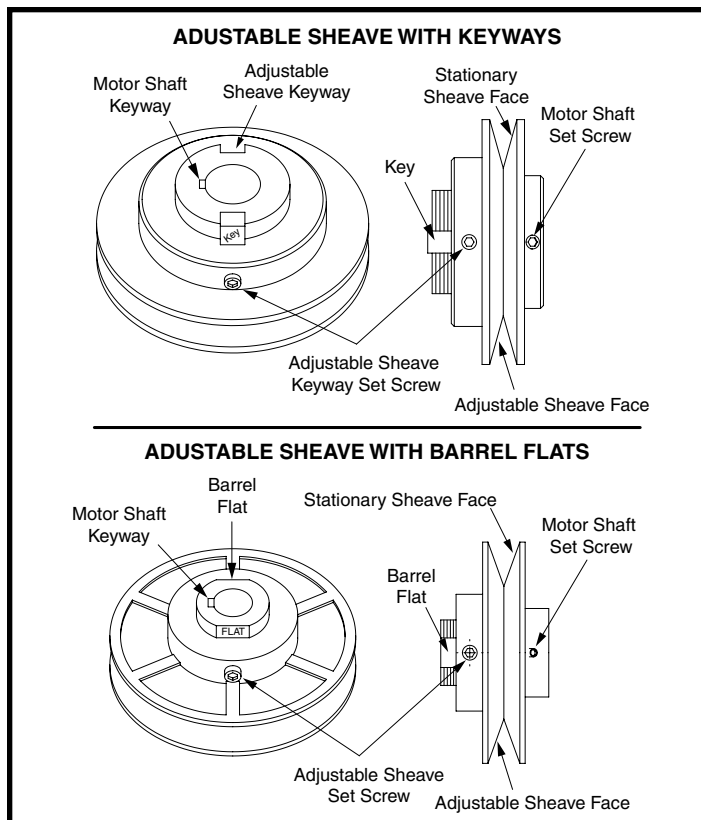

Figure 5. Adjustable Sheaves with Keyways or Barrel Flats
NOTE: For single groove sheaves with keyways (Figure 5), always make sure the motor sheave is fully installed onto the motor shaft.
4. Sheaves with Keyways: Loosen keyway set screw in adjustable sheave and pull out the external key. **NOTE:** The end of the key projects a small amount to provide a gripping surface for removing. See Figure 5.